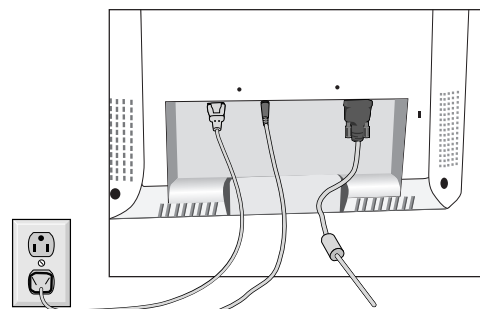

Figure R.3
4. Connect the AC cord, signal cable and Audio cable to the back of the monitor (**Figure R.3**).